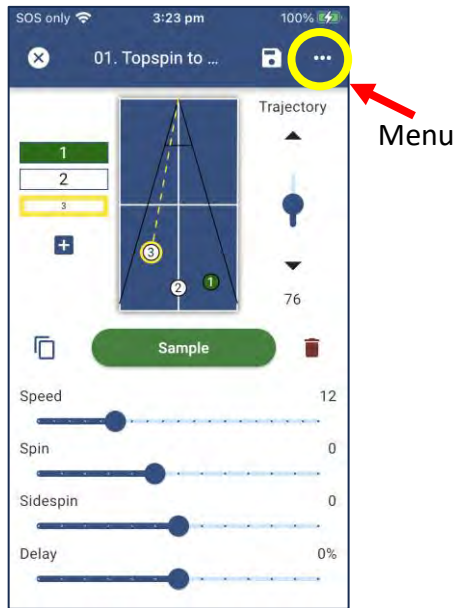

Figure 3-59
2. Touch the “...” menu in the upper right corner of the Drill Edit screen. (Figure 3-59)